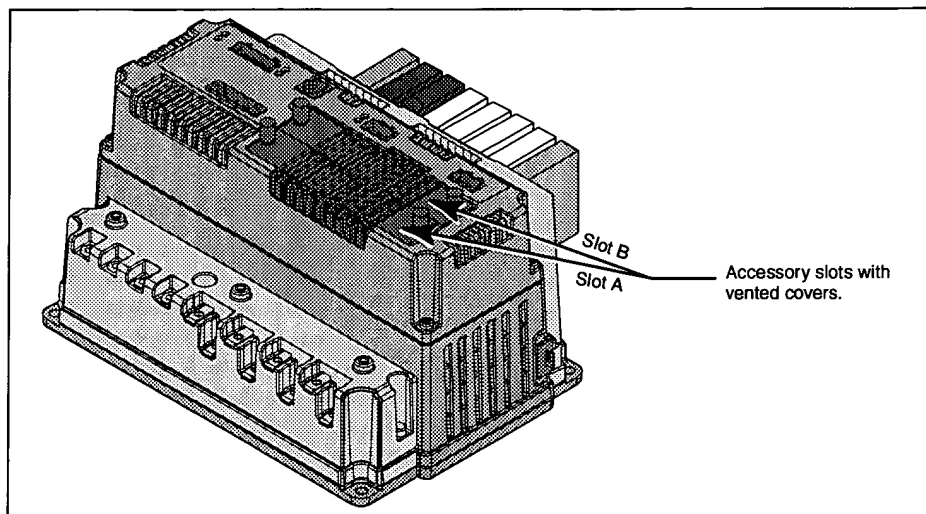
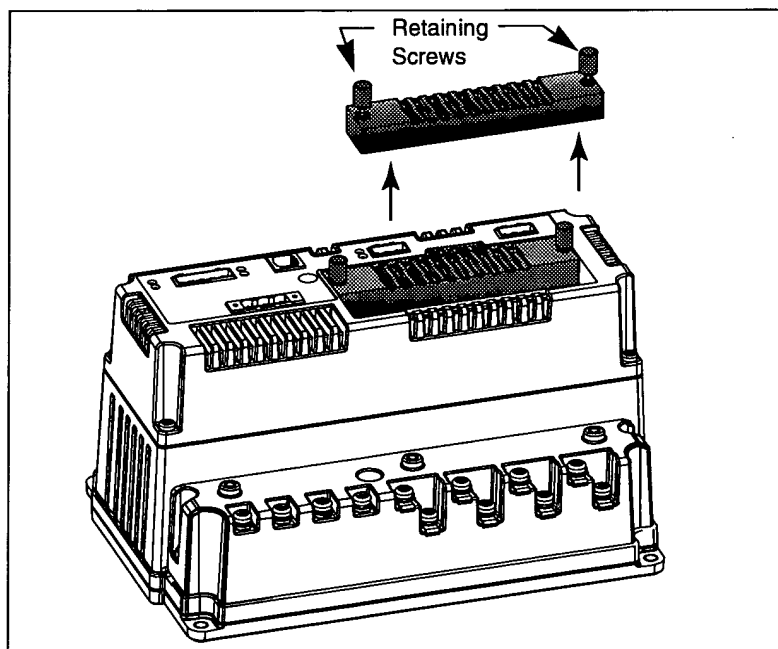

Figure 4-2 Circuit monitor option slot locations
Figure 4-3 Removing the dust cover on the circuit monitor
3. On option slot A (Figure 4-2) of the circuit monitor, loosen the two retaining screws and remove the dust cover (Figure 4-3). Retain the dust cover for future use.